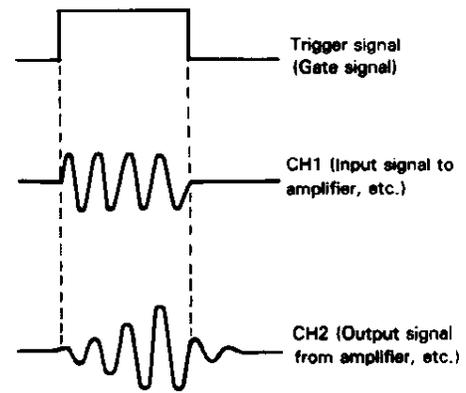

Fig. 6
When the SOURCE selection is in EXT/CH3, the input signal at the EXT TRIG INPUT ⑭ jack becomes the trigger. This signal must have a time or frequency relationship to the signal being observed to synchronize the display. External sync is preferred for waveform observation in many applications. For example, Fig. 6 shows that the sweep circuit is driven by the gate signal when the gate signal in the burst signal is applied to the EXT TRIG INPUT jack. Fig. 6 also shows the input/output signals, where the burst signal generated from the signal is applied to the instrument under test. Thus, accurate triggering can be achieved without regard to the input signal fed to the INPUT ⑤ or ⑨ jack so that no further triggering is required even when the input signal is varied. When the vertical MDDE is set to TRI, triple-trace display is provided and the signal applied to EXT/CH3 is to be used to trigger the sweep, with INTERNAL sync possibility.